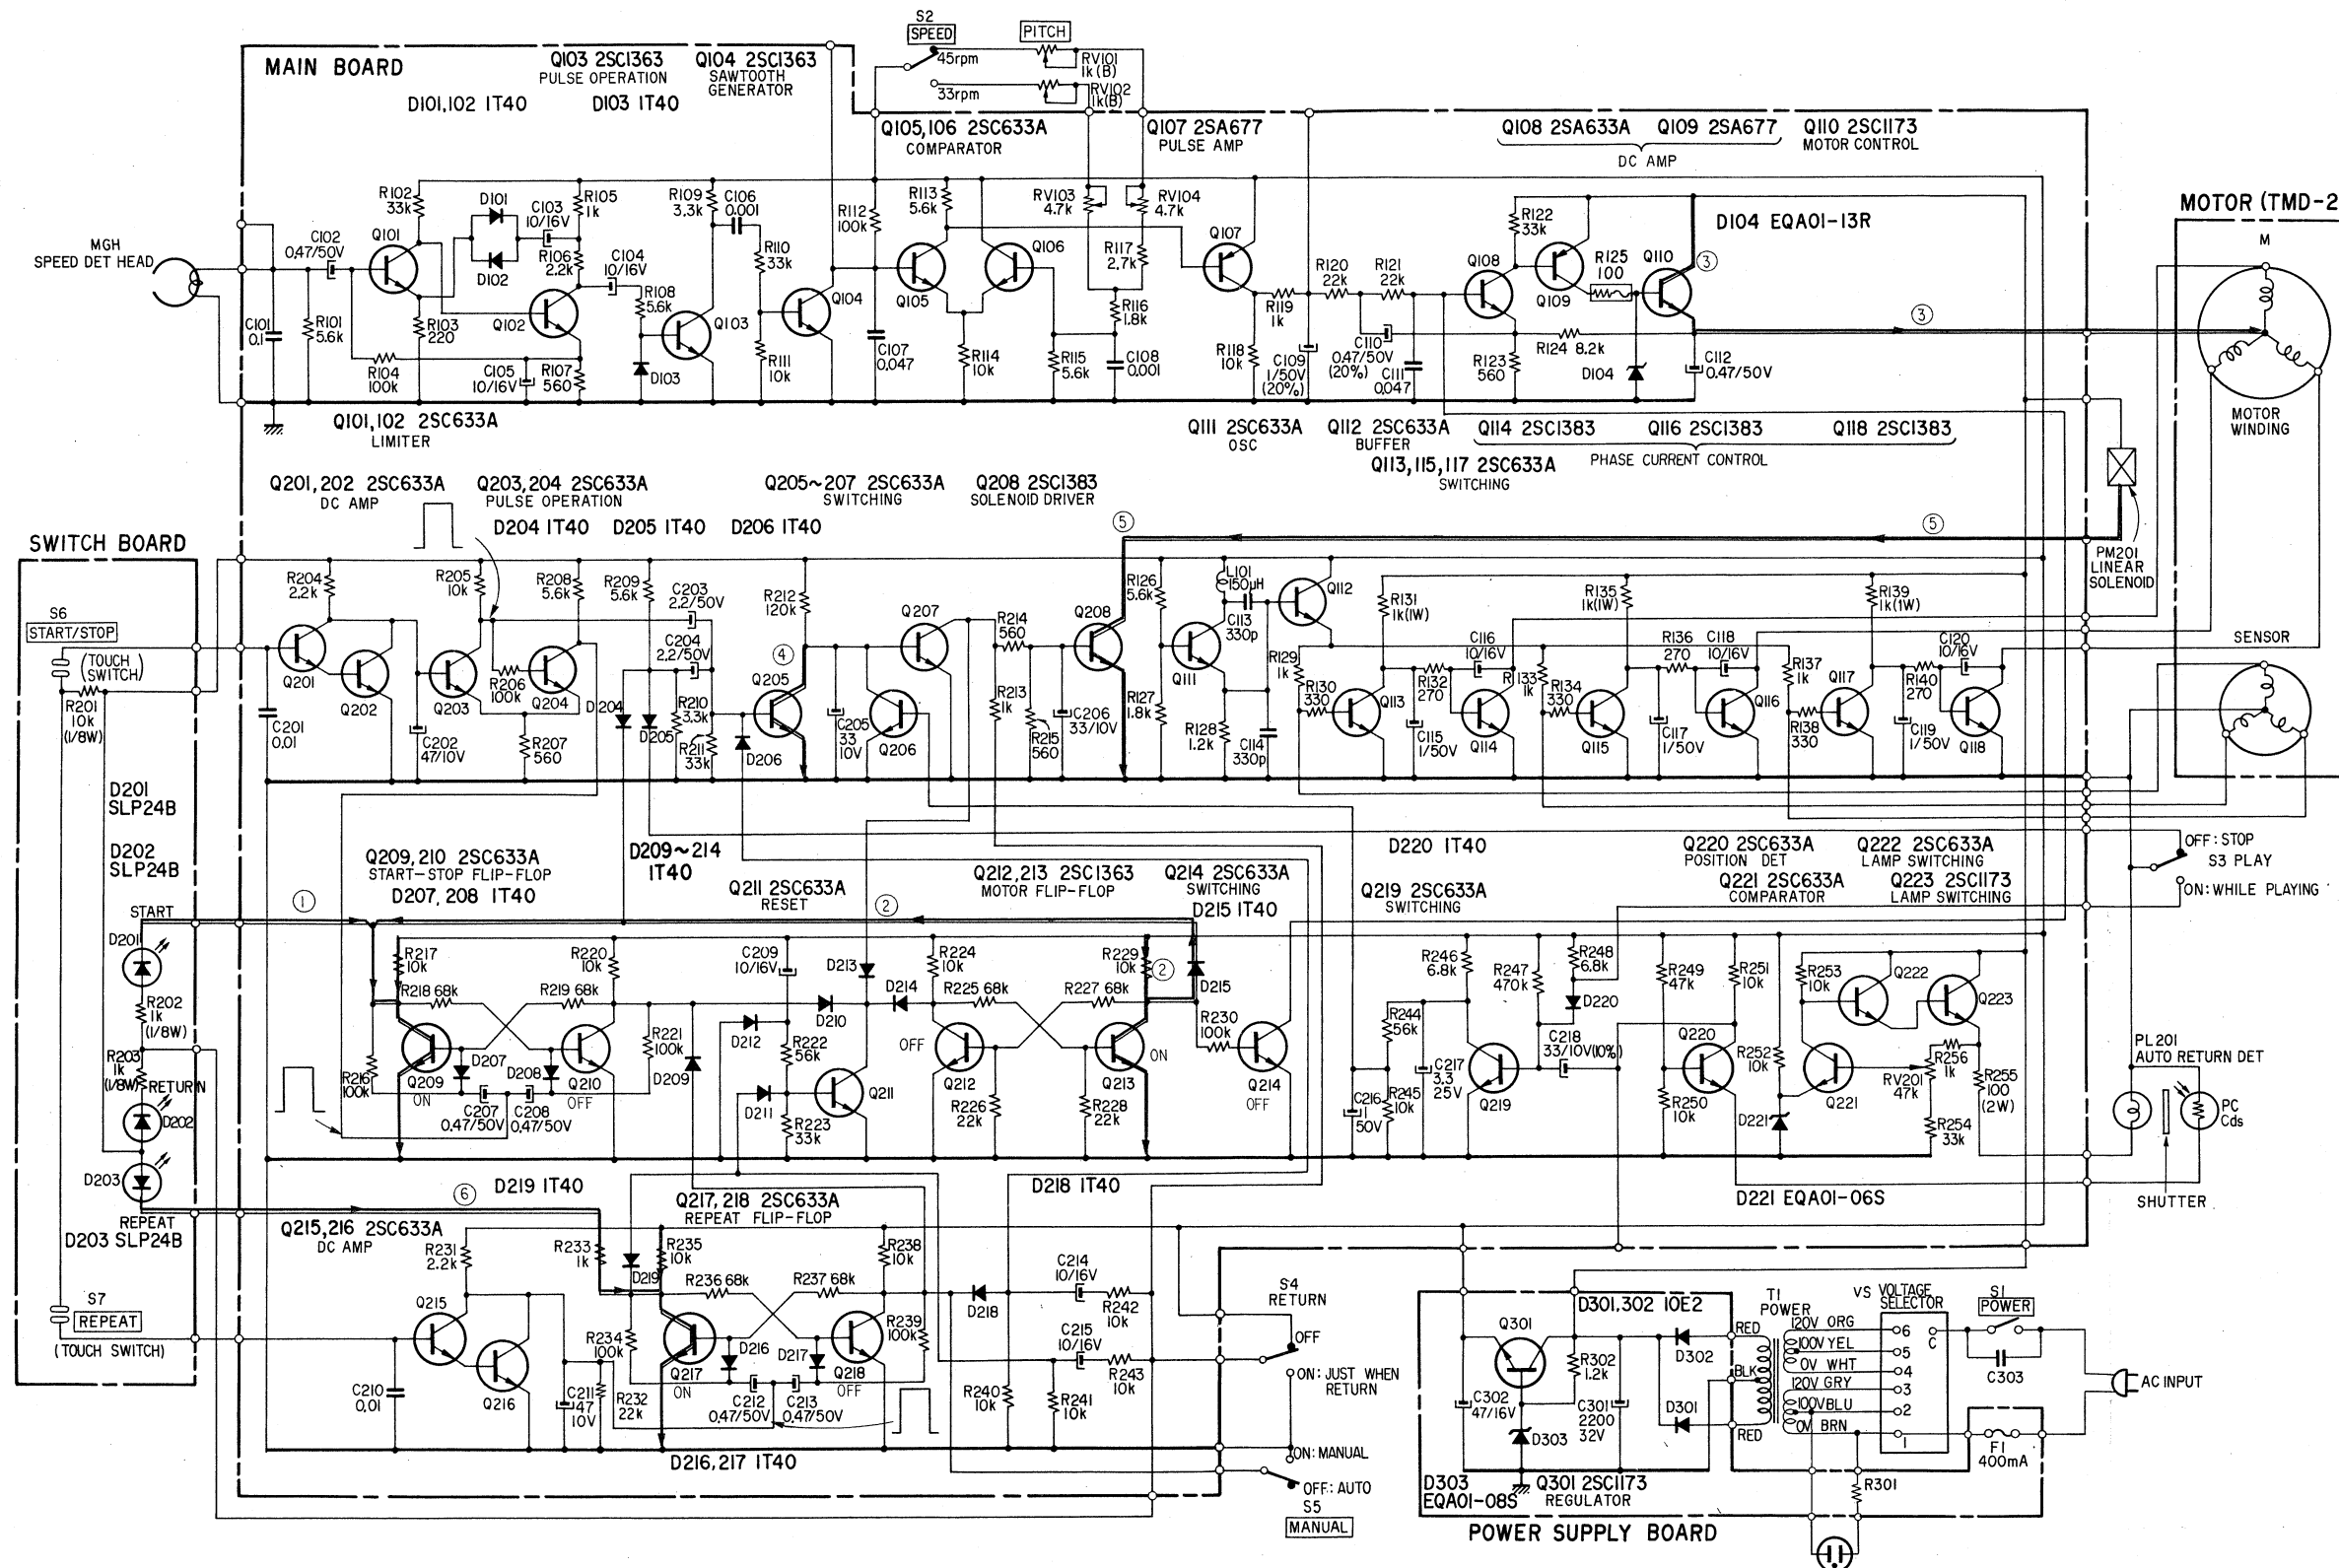

Fig. 2-7.
2. Operation for auto-start (see Fig. 2-7)
1. A negative trigger signal is generated on the collector of Q204 (which forms part of a Schmitt trigger circuit). This signal passes via C207 and C208 to invert the Q209, Q210 start-stop flip-flop. That is, Q209 is turned ON, and Q210 turned OFF. The same instant that Q209 is turned ON, the START indicator (LED) D201 lights up ((1) in Fig. 2-7). As a result of the current ((2) in Fig. 2-7) flowing through D215, the Q213 collector potential will drop, thus resulting in the inversion of the motor flip-flop Q212, Q213 (Q212 is turned OFF, and Q213 turned ON). Q214 is consequently turned OFF, thus starting the motor. (See current flow (3) in Fig. 2-7.)
2. A positive trigger signal is generated on the collector of Q203. This signal passes C203, and is applied to the base of Q205 which is thus turned ON. (See current (4) in Fig. 2-7.) With Q205 being turned ON, C205 will discharge, Q207 turns OFF, and Q208 turns ON. Current thus flows to the solenoid, which
consequently activates the mechanism. Tonearm automatically lowers itself onto the record. (See current (5) in Fig. 2-7.)
(see Fig. 2-7)
1. If S6 is touched during the playing of a record, a positive trigger signal will be generated on the collector of Q203, just as in the case when the auto-start mechanism is activated. A current flows through the solenoid, the auto-return mechanism is activated, and the tonearm is returned to the arm rest. (See current flow ④ and ⑤ in Fig. 2-7.)
5. Repeat operation (see Fig. 2-7)
1. When switch S7 is touched, a negative trigger signal is generated on the collector of Q216, and is applied to the repeat flip-flop Q217, Q218 which is consequently inverted. That is, Q217 is turned ON, and Q218 turned OFF. And once Q217 is turned ON, the REPEAT indicator lamp (LED) D203 lights up. (See current flow ⑥ in Fig. 2-7.)
2-4. SCHEMATIC DIAGRAM (Fig. 2-7)